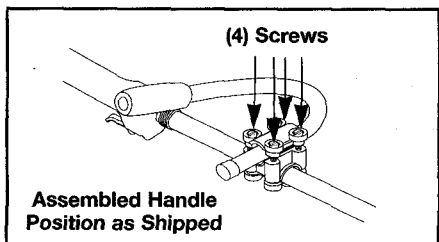
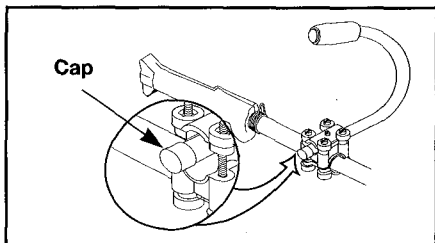

Fig. 4
Fig. 5
Loosen the four (4) mounting screws on the J-handle (Fig. 4). Slide the J-handle until the inside edge of the cap is flush to the edge of the clamp assembly (Fig. 5). Tighten the mounting screws.